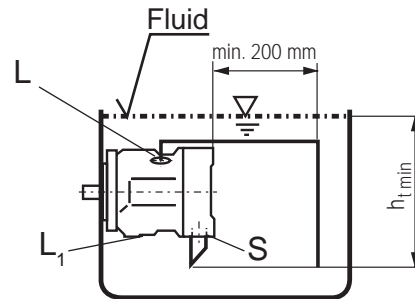

Fig. 3
a) If the minimum fluid level is above the top of the pump, port "L₁" closed, "L" and "S" should remain open, L piped and recommendation S piped (see Fig. 3)